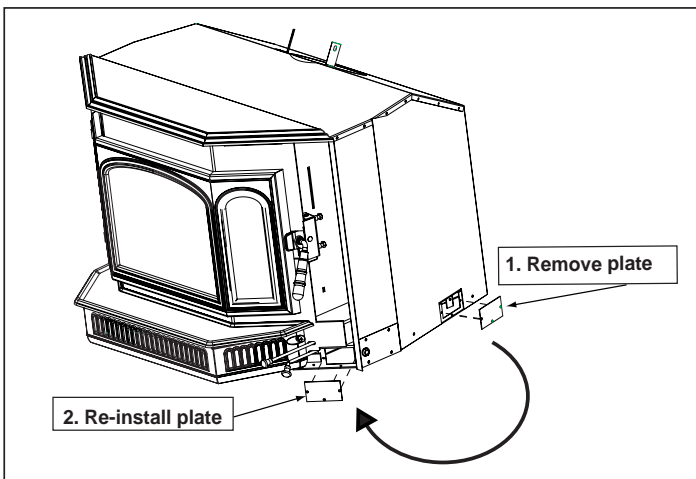

Figure 15.1
2. Re-attach the cover plate using the same screws to front side of the insert as shown in **Figure 15.1**.